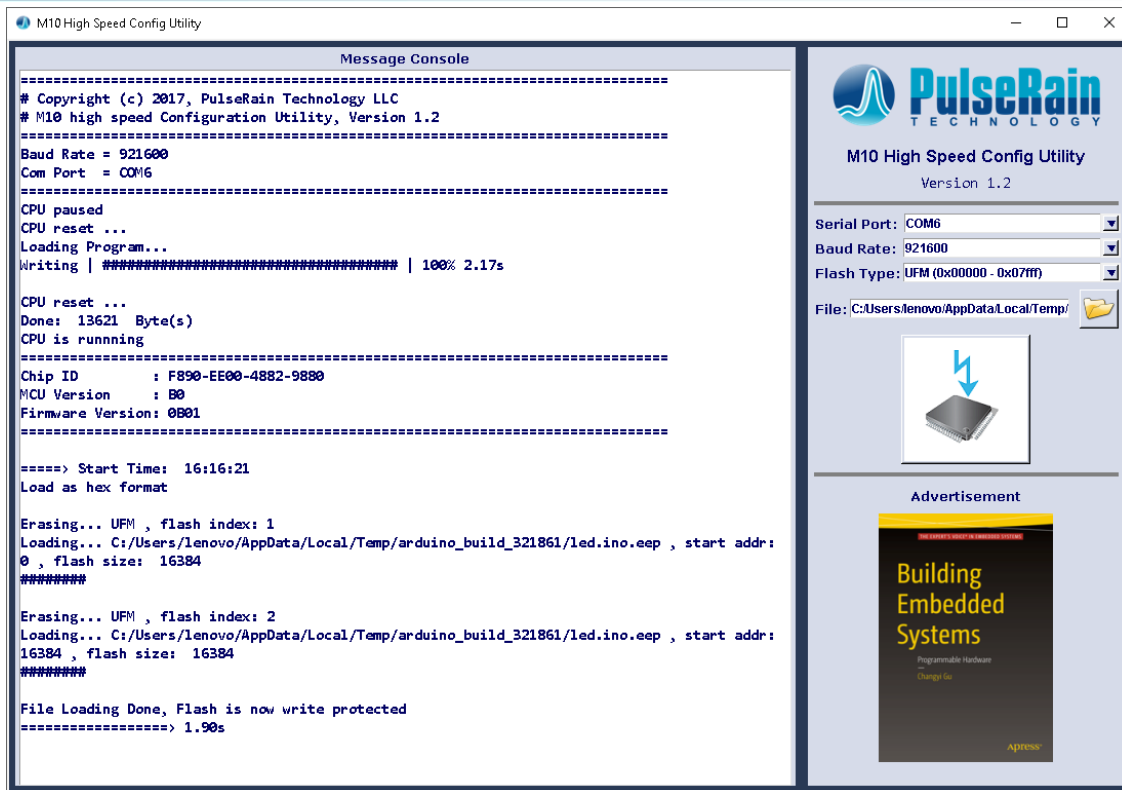

Figure 2-12 M10 High Speed Config Utility
- 5) Click the big square button on the right-hand side (with the picture of lightning strike). If everything is done right, you see a message like "**File Loading Done, Flash is now write protected.**" at the end of flash programming, as illustrated in Figure 2-12.